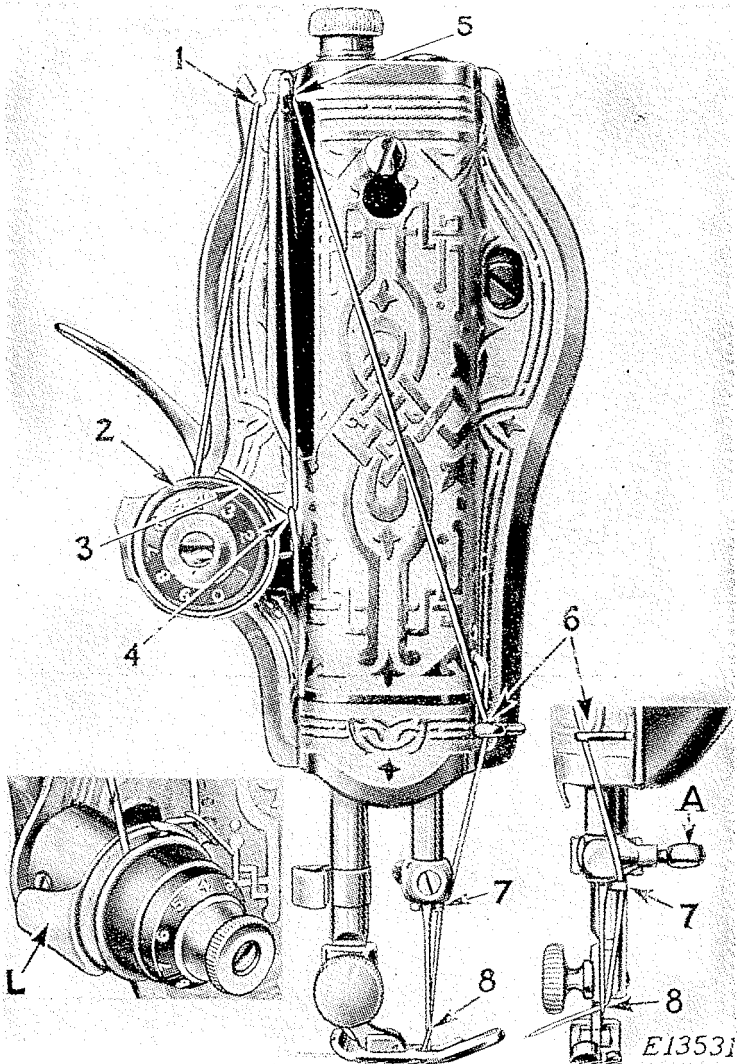
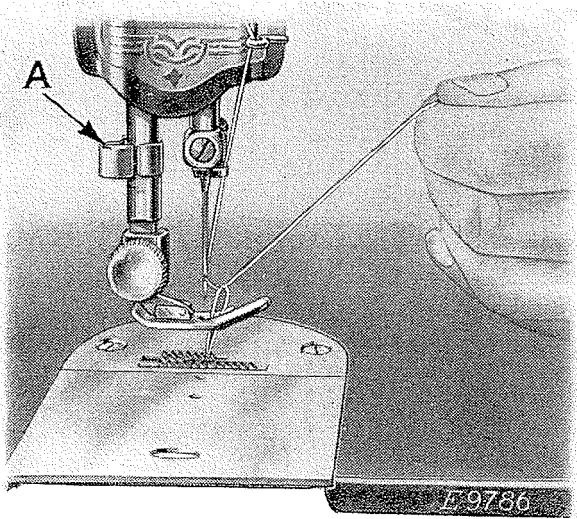

FIG. 12. UPPER THREADING
FIG. 13. DRAWING UP THE BOBBIN THREAD
Turn the balance wheel over toward you until the thread take-up lever (5, Fig. 12) is raised to
(SEE FIG. 12)
Turn the balance wheel over toward you until the thread take-up lever (5) is raised to its highest position. Place the spool of thread on the spool pin at the top of the machine and pass the thread to the left through the thread guide (1) at the rear of the face plate, down, under and from back to front between the tension discs (2), the thread guard (L) guiding the thread between the discs. (See insert in Fig. 12). With the right hand hold the spool to prevent it from turning, and with the left hand draw the thread up into the take-up spring (4) until the thread enters the retaining fork (3), then pass the thread up and from back to front through the hole in the thread take-up lever (5), down through the guide (6) on the face plate, into the guide (7) on the needle clamp and from **right to left** through the eye (8) of the needle.
the balance wheel over toward you until the needle moves down and then up to its highest position, thus catching the bobbin thread. Draw up the needle thread and the bobbin thread will come up with it through the hole in the throat plate, as shown in Fig. 13. Lay both threads back under the presser foot.
Stop the machine with the thread take-up lever (5, Fig. 12) at its highest position, raise the presser foot and draw the fabric back and to the left, pass the threads over the thread cutter (A, Fig. 13) and pull down lightly to sever them. Leave the ends of the threads under the presser foot.